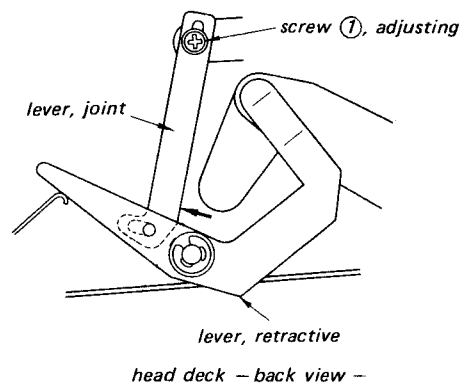

Fig. 11-7 Pinch roller stroke adjustment
- (3) Fix the screw ① while pushing the joint lever in the direction shown with arrow in Fig. 11-7.
- (4) Put the dummy capstan  $\times$  into the capstan bearing and be sure that the pinch roller shaft moves by approx. 3~4 mm ( $1/8 \sim 5/12$ " ) on the surface of the retractive lever when the function selector knob is changed from STOP to FWD.
- (5) Be sure that the washer for the pinch roller shaft does not come in contact with the part indicated with  $\blacktriangle$  on the retractive lever when the function selector knob is changed slowly from FWD to FF.
- (6) After the adjustment, apply lock paint to the screw.